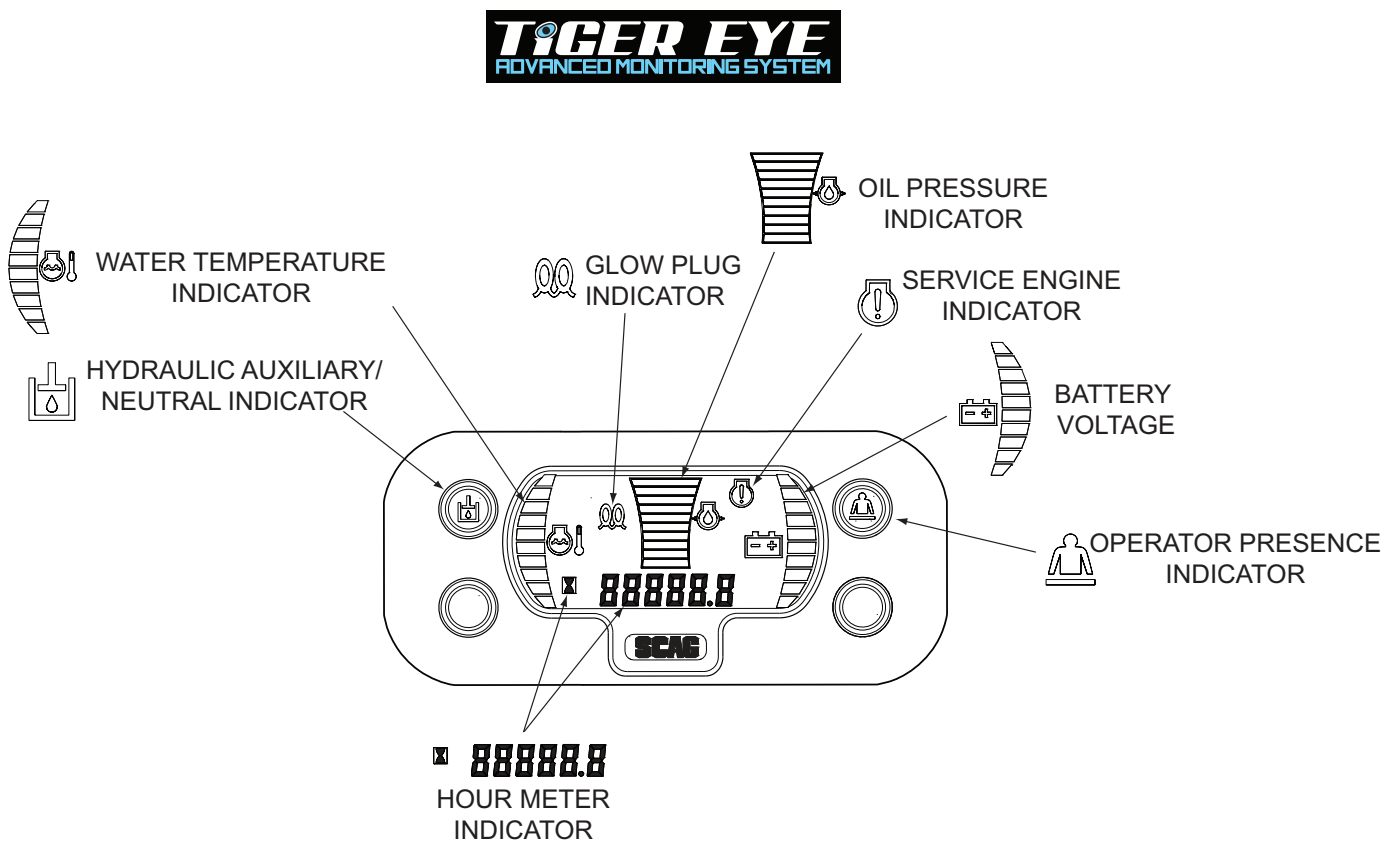

Figure 4-1. Tiger Eye Advanced Monitoring System Kubota
1. **Glow Plug Indicator (Figure 4-1).** The indicator turns on when the key switch is turned to the PREHEAT position. Glow plugs must be preheated for 5 to 10 seconds before starting the engine.
2. **Oil Pressure Indicator (Figure 4-1).** Indicates engine oil pressure. Reference the engine operator's manual for further information.
3. **Service Engine Indicator (Figure 4-1).** Indicates the maintenance reminder for the engine oil change. Has preset maintenance reminder and will start flashing scheduled maintenance 2 hours before preset time and continue flashing until 2 hours after. Automatically resets.
4. **Voltmeter Indicator (Figure 4-1).** Indicates the condition of the charging system. When the engine is running, in normal operating conditions, the bar graph should be in the 12 to 14 volt range.
5. **Operator Indicator (Figure 4-1).** Light will illuminate when the operator is on the platform engaging the operator presence switch.
6. **Hour Meter Indicator (Figure 4-1).** Indicates the number of hours the engine has been operated. It only operates when the engine is running. Will start flashing with the Service Engine Indicator at scheduled maintenance 2 hours before preset time and continue flashing until 2 hours after. Automatically resets.
7. **Hydraulic Auxiliary/Neutral Indicator (Figure 4-1).** Light will illuminate when the steering control lever is in the neutral position.
8. **Water Temperature Indicator (Figure 4-1).** Indicates the operating temperature of the engine. If the engine temperature exceeds the maximum preset value, the indicator will flash and the Park Brake, and Neutral indicator lights will flash in an alternating pattern.